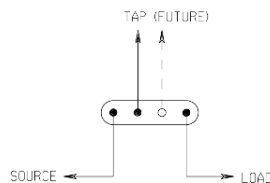

Figure 26
Single phase junctions (STD Item US33F1) are to be used for terminating cable points in URD's where there are radial sidetaps. The single phase junctions are to be mounted on a minipad boxpad. Single phase junction comes complete, fiberglass reinforced cabinet with a four position junction, parking stand and ground bus bar installed. See figure 26 for typical schematic detail.
- 2) Std Item US33 is to be used for terminating cable points in URD's and UCD's where there are radial sidetaps. The three phase junction US33, is to be mounted on a URD minipad boxpad. This three phase junction comes with grounding attachment points. Junctions and mounting hardware applicable Std. Items UR28C, UR28D, UR28CH, UR28DH can be chosen for proper installation. See figure 26 for schematic detail. Alternate installation method.